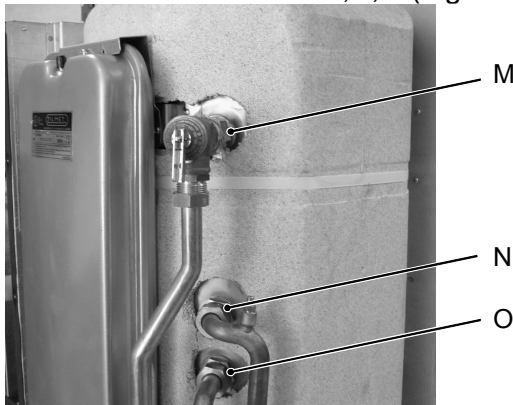

Figure 5
- 1) Unscrew the connections M,N,O (Figure 5).